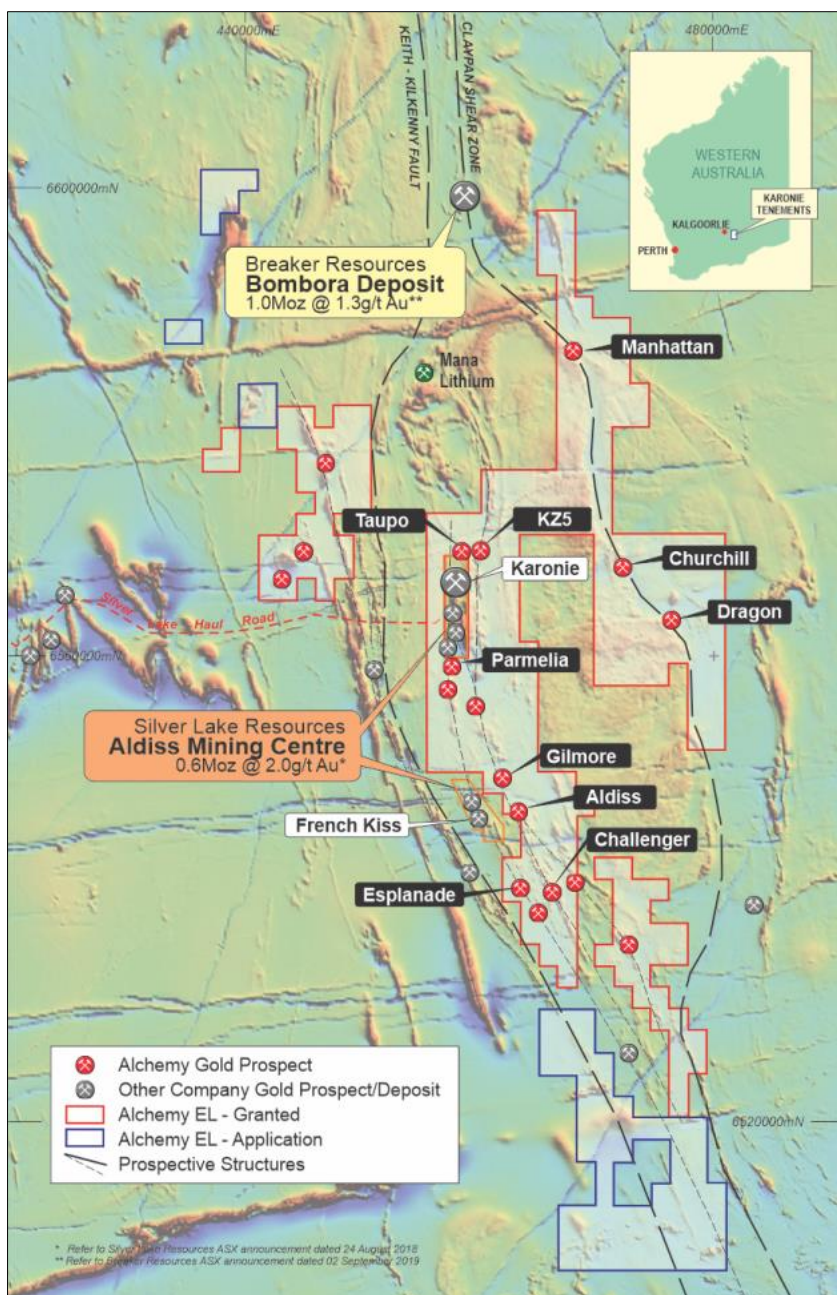

Figure 1: Karonie Project tenements, prospects and interpreted structures over aeromagnetic image.
Alchemy Resources Limited (ASX: ALY) ("Alchemy") would like to provide clarification of visual estimates stated in the announcement dated 20 November 2019. Alchemy is pleased to announce the completion of 734m of reverse circulation (RC) drilling and 1,198m of aircore (AC) drilling within the 100% owned Karonie Gold Project in the Eastern Goldfields, WA (*Figure 1*). The drilling tested high priority Karonie style gold targets immediately along strike to the north and south of the Silver Lake Resources Ltd (ASX: SLR) Aldiss Mining Centre.